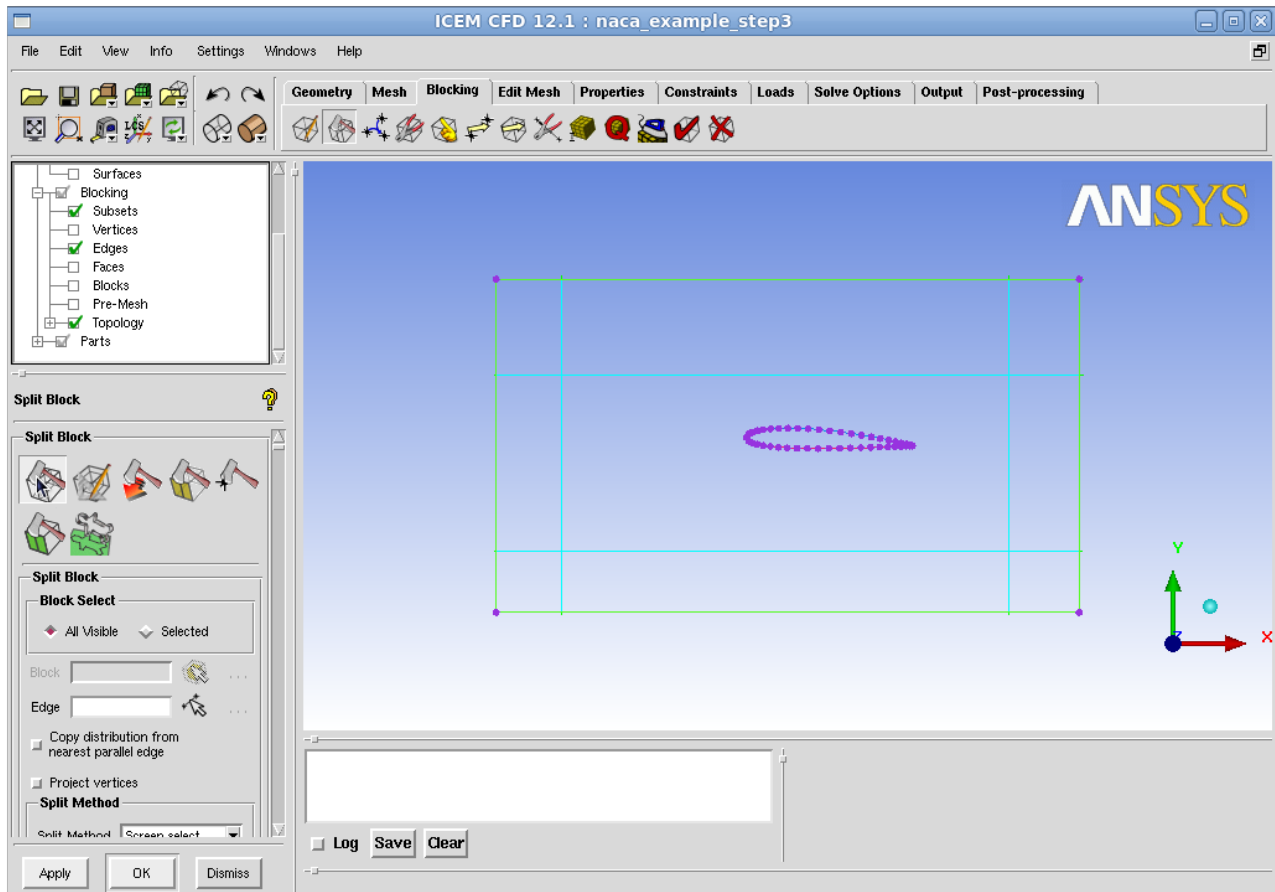

Figure 6: Splitting the Original Block
- First further divide up the Blocks. Blocking Tab → Split Block and then select the Split Block tool. Use this tool to split the block upstream and downstream of the aerofoil and above and below the trailing edge. Again left and middle clicking is the most efficient method. Your screen should look something like Figure 6